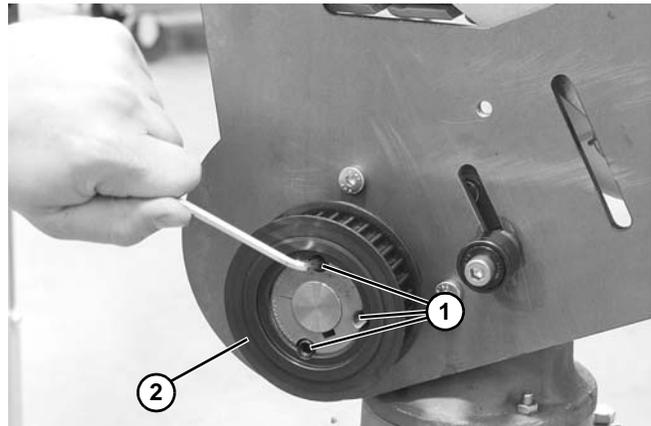

Figure 50
3. Loosen set screws (Figure 50, item 1) and remove drive pulley (Figure 50, item 2).